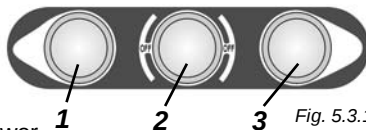

Fig. 5.3.1
5.3 - Check the functioning of the stop push-button (fig. 5.3.1)
Connect the machine to the power supply and make it work, then press the stop push-button "2" Fig. 5.3.1. The machine has to stop.
5.4 - Start up of the machine (fig. 5.3.1)
To start the machine, connect the plug in the power supply outlet and press push-button "on" "1" Fig. 5.3.1 and the machine starts.
5.5 - Stopping the machine (fig. 5.3.1)
To stop the machine, press stop push-button, "2" Fig. 5.3.1 and the machine stops.